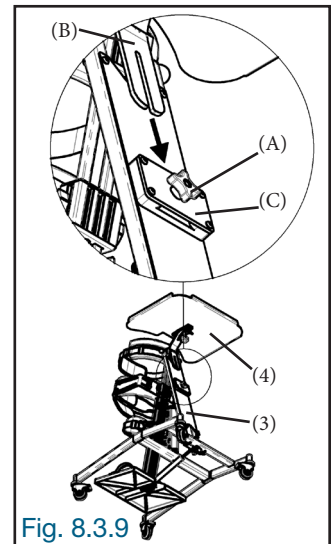

Fig. 8.3.9
8.3.9 Loosen the locking knob (A) slightly on the slide (C) of the stabilizer (3). Insert the support (B) of the table (4) into the slide (C), then tighten the locking knob (A) firmly to fix its position (Fig. 8.3.9).